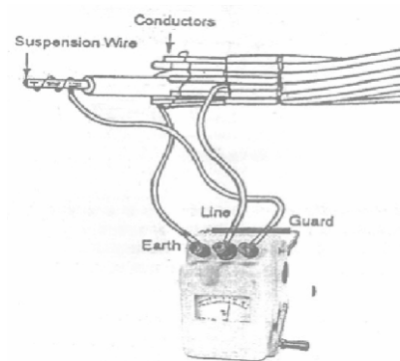

Fig. 2
- When one of the conductors in a multi-conductor cable is to be insulation tested against ground, connect the conductor to be tested with the LINE terminal of the tester, while connecting the shield of the cable with the EARTH terminal. The rest of the conductors may be connected together to the GUARD terminal of the tester. This procedure will serve to prevent the current from leaking through those conductors and eliminate misleading surface leakage effects. (See fig. 2)